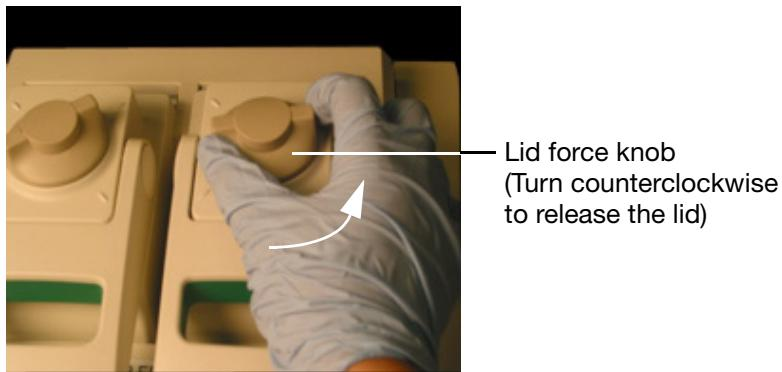

Figure 9. Turn the lid force knob counterclockwise to release the inner lid.
- Turn the lid force knob counterclockwise to release the inner lid (Figure 9).